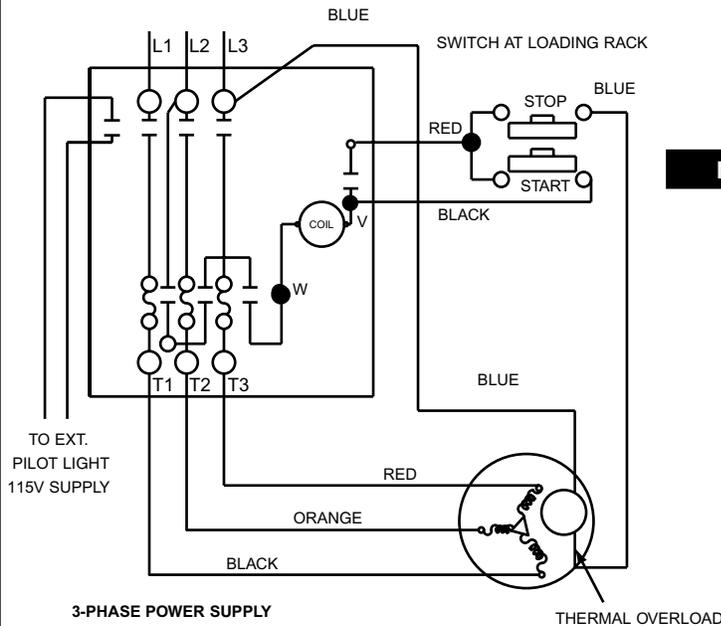

FIGURE 9
1. Installations where the magnetic starter is located away from the loading rack in a nonhazardous location. (See Fig. 9.)